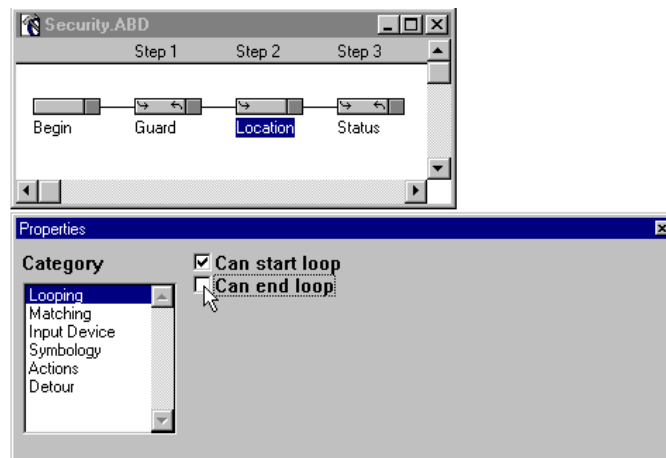

Figure 3-33 “Location” Handler - Looping
29. Click the **Can end loop** check box to deselect the option (Figure 3-33). *(A checkmark should not appear in the box.)*